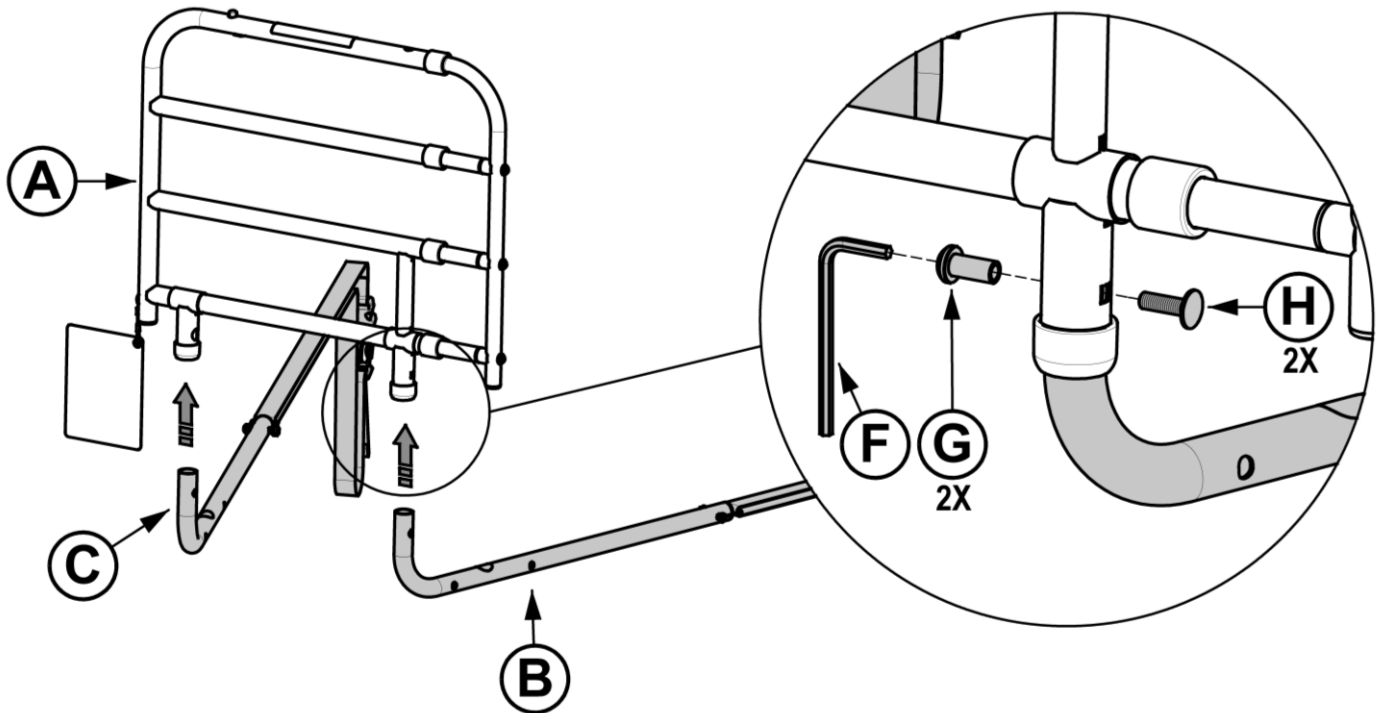

FIGURE 3
3. Insert Leg **B** into Bed Rail **A** and align holes. Fully insert Bolt **H** in the square hole, then insert Bolt **G** from the other side and tighten using Tool **F** to secure Leg **B**, as shown in *FIGURE 3*. Repeat to attach Leg **C** to **A**.